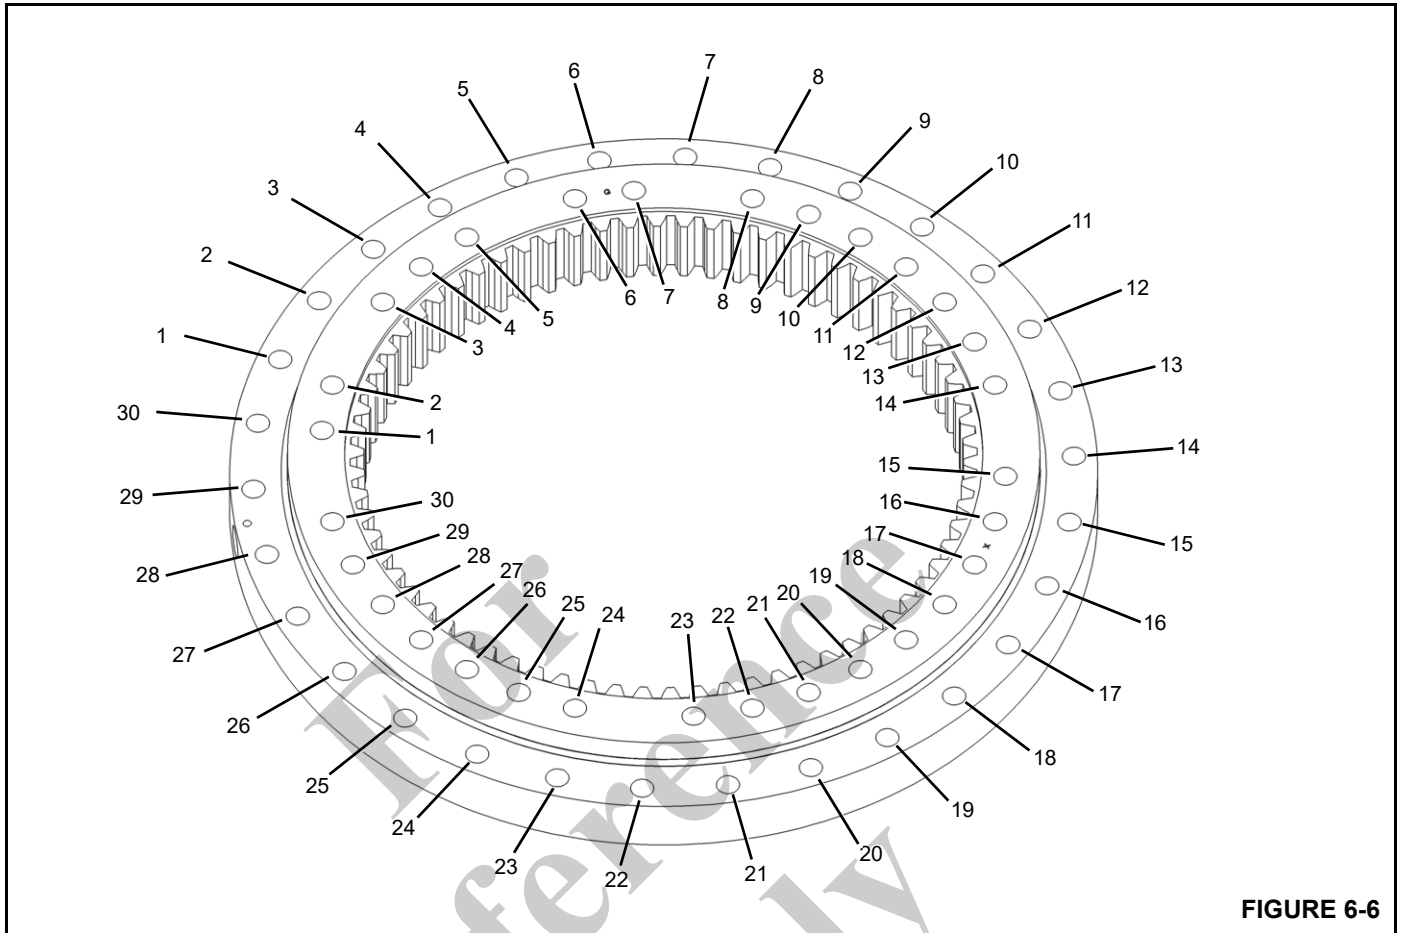

FIGURE 6-6
The inner race of the bearing is secured to the turret by 30, one inch, Grade 8 bolts (Figure 6-6). The outer race of the bearing is secured to the frame by 30, one inch, Grade 8 bolts (Figure 6-6).
2. Torque eight bolts (Figure 6-6) to 670 lb-ft \pm 26 lb-ft (908 Nm \pm 35 Nm) using the following sequence pattern; 1, 19, 10, 28, 6, 23, and 15. Tools used are the socket, multiplier, backlash adapter, necessary extensions, and torque wrench.
Torque eight bolts (Figure 6-6) to 670 lb-ft \pm 26 lb-ft (908 Nm \pm 35 Nm) using the following sequence pattern; 1, 17, 9, 25, 4, 20, 12, and 28.